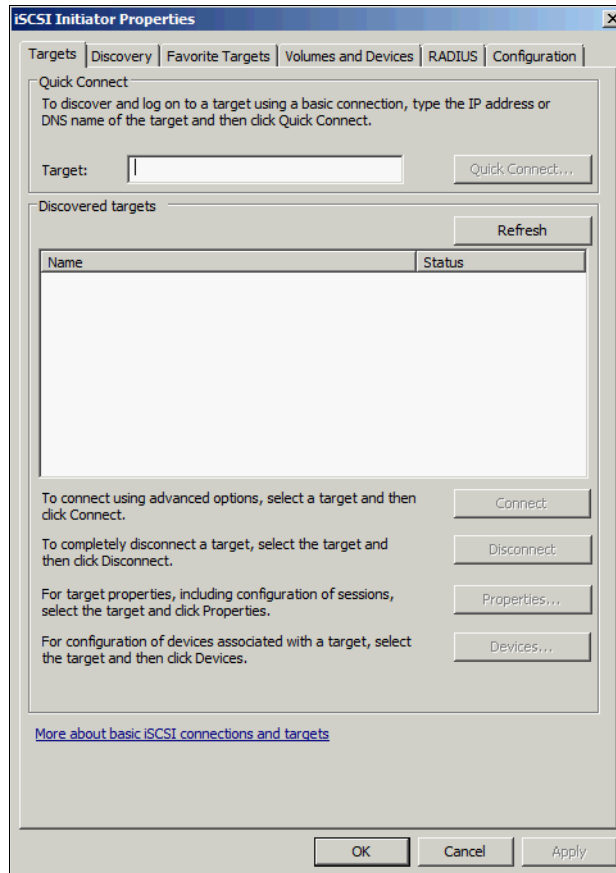

Figure 12-15 Windows iSCSI Configuration tab
2. Log on to your Windows 2008 host and click **Start** → **Administrative Tools** → **iSCSI Initiator** to open the iSCSI Configuration tab (Figure 12-15).